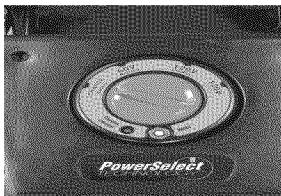

Figure 15 - Power Selection Dial
1. Locate the upper deck power selection dial on the control board (see Figure 15).